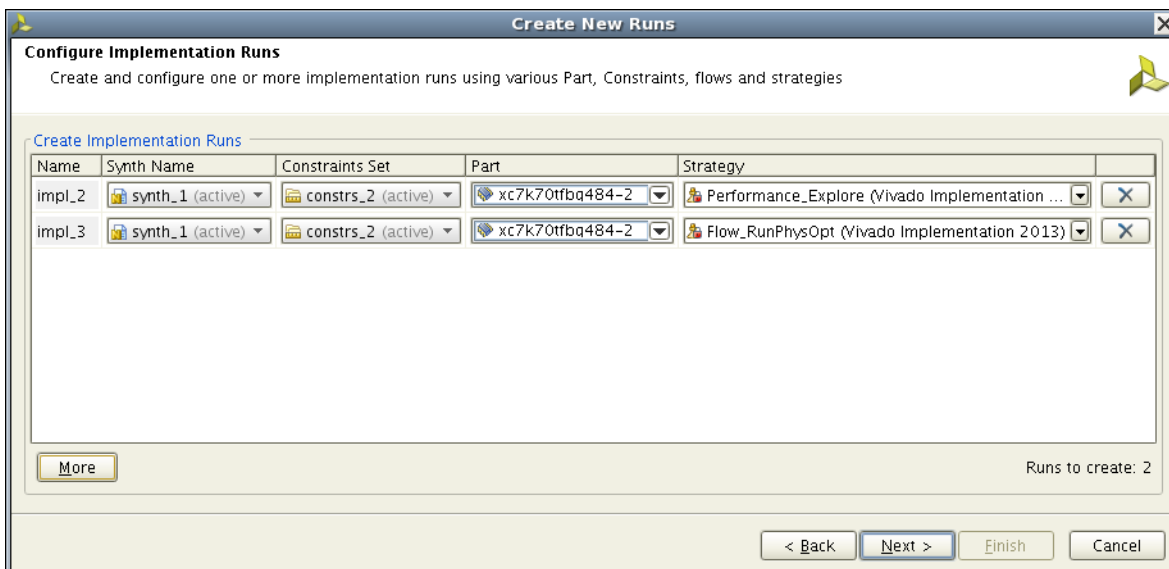

Figure 1-3: Configure Implementation Runs
8. Click **More** to define additional runs. Specify names and strategies for the added runs. See Figure 1-3, Configure Implementation Runs.